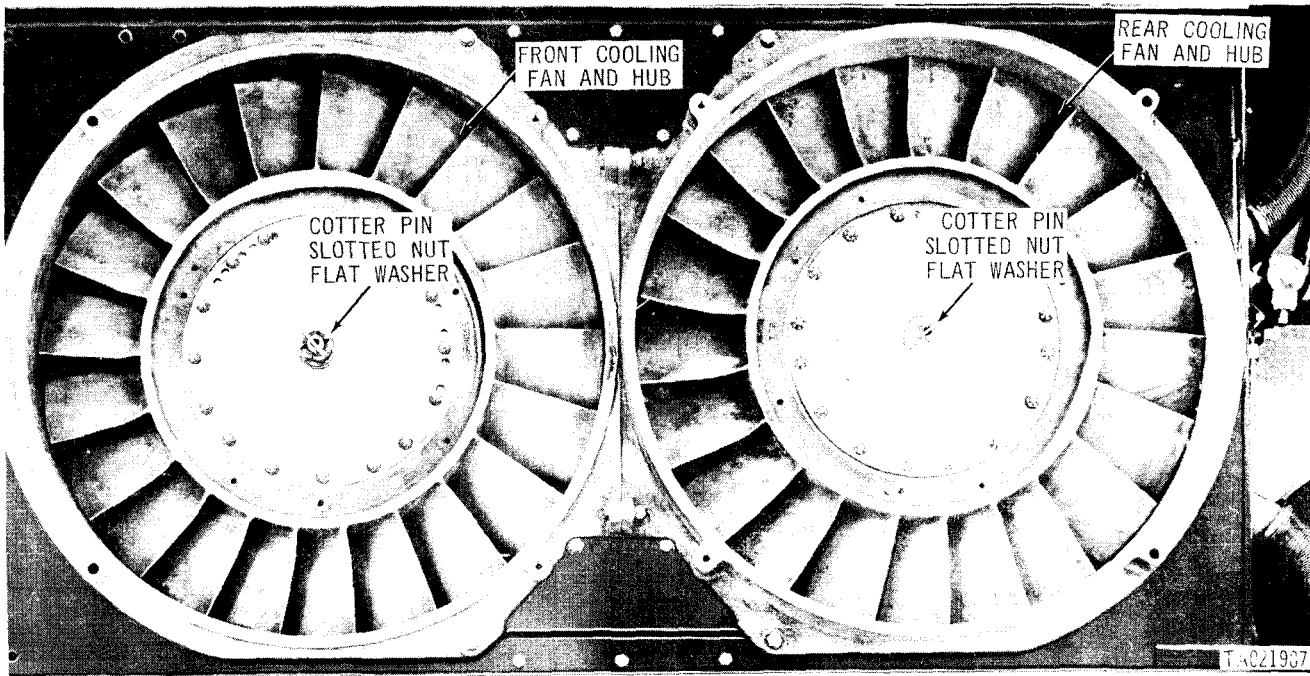

Figure 3-7. Removing or installing cooling fans.
b. Remove cotter pin, slotted nut and flat washer (fig. 3-7) and discard cotter pin. Remove front cooling fan and hub wscmbly from vertical drive shaft. Remove rear cooling fan and hub assembly in the same manner.